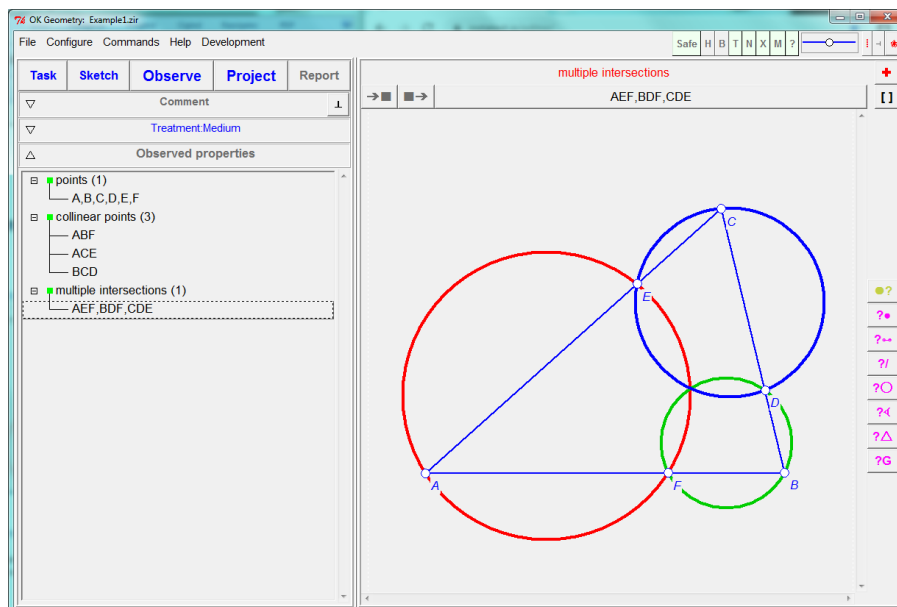

Figure 16
- Click on a property you find interesting, e.g. multiple intersections. The property 'expands' and instances of the property appear. Click on any instance of the property to visualise it on the right pane. Many of the properties listed are trivial, but you may not have been aware of some non-trivial properties, e.g. three circles passing through a common point (Figure 16) – a fact known as the Miquel theorem.